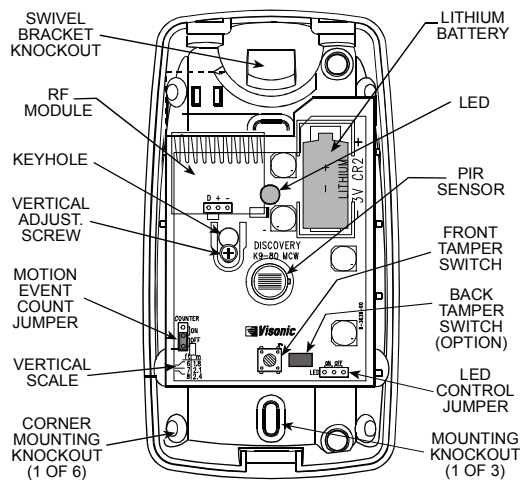
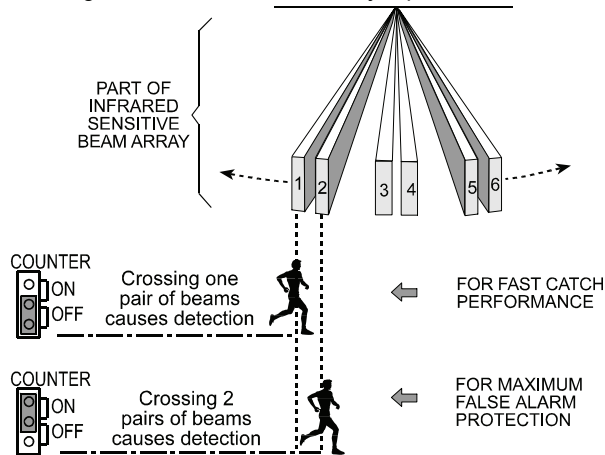

Figure 4. Inside View
Figure 9. Motion Event Counter Setting Options
- Insert the battery into the battery clip - observe polarity (see Figure 4).
- Loosen the vertical adjustment screw, slide the PCB down and remove it via the “keyhole” (see Figure 4).
The location of the motion event jumper is shown in Figure 4. Refer to Figure 9 below and mount the jumper as desired.